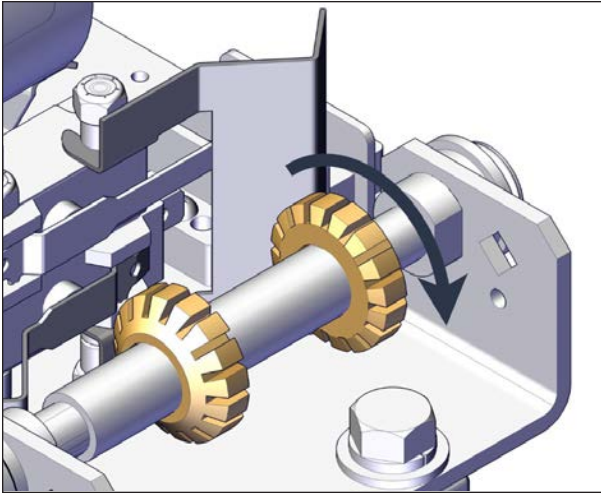

FIGURE 81: CAM WHEELS
4. To reduce the lift up limit, turn by hand the up- cam wheel counterclockwise looking from the cam plate mounting screw side as shown in Figure 81. It has around 4° between each cam wheel tooth and adding or removing a tooth resolves in adding or removing approximately 5/32 in. (4 mm) on the cover lifting stroke.